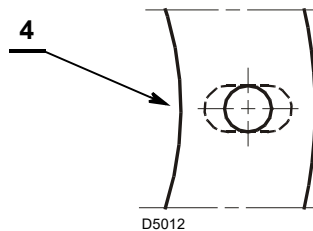

Fig. 7
- If necessary, widen the holes of the insulating gasket 4)(Fig. 7).